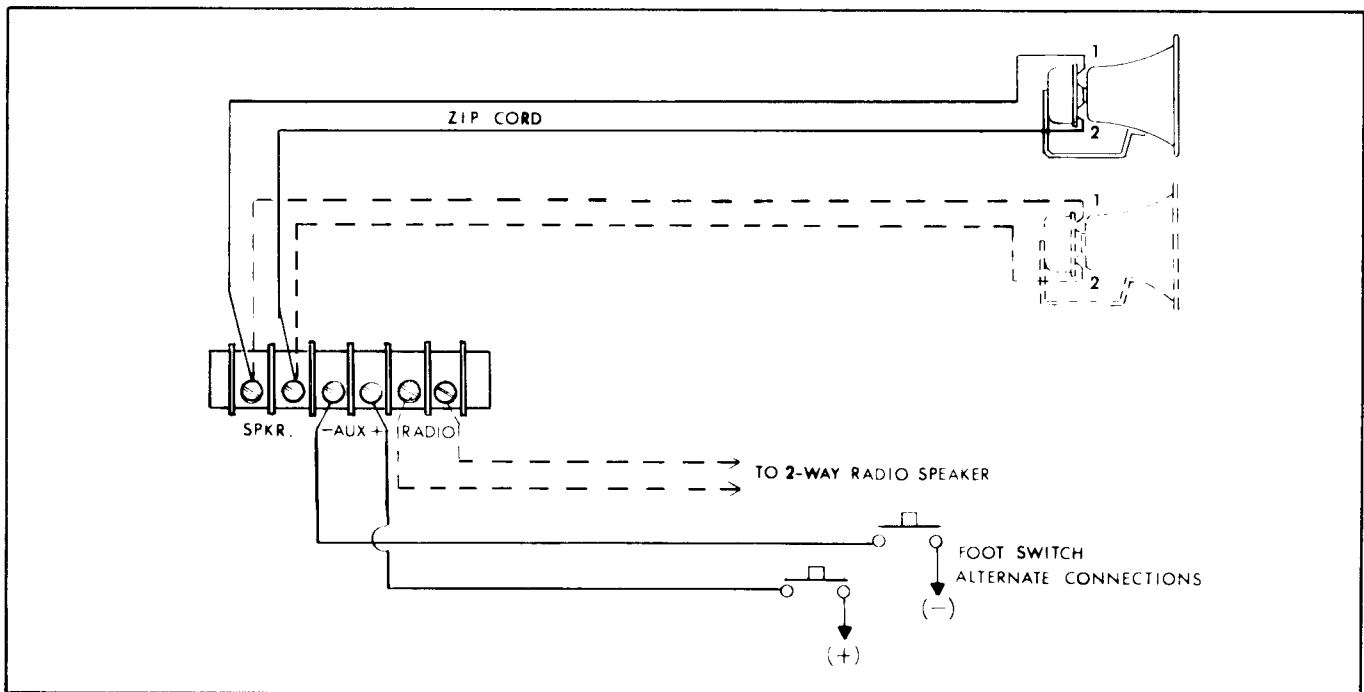

Figure 5. Terminal Board Connections — Foot Switch Control.
in-phase for optimum performance. This can be accomplished by connecting the two speaker leads marked "1" to the same electronic siren terminal, and the two speaker leads marked "2" to the other terminal (see figure 5).
C. Connect a length of insulated wire (supplied) from one terminal of the foot switch to the AUX. + terminal at the rear of the siren. Connect another length of insulated wire from the other foot switch terminal to the positive (hot) side of the battery terminal (negative grounded systems). As an alternate method, connect one terminal of the foot switch to the AUX. - terminal and the other foot switch terminal to the vehicle frame or other good ground point (see figure 5).